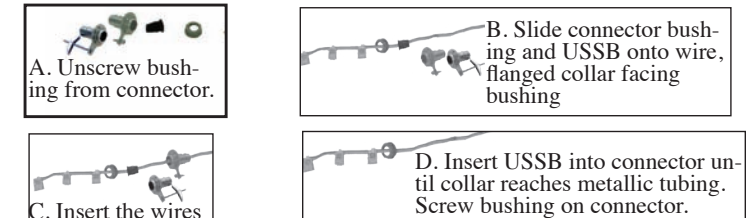

**Fig. 5** You may use Electrobits **Passthru**, **General bushings** or **Straight connectors** with USSB and GE TETRA led wiring.
**Figure 5** Slide the large metallic head over the LQBX/WB3760 Sleeving/ GTO wire assembly, along with yellow plastic ring. Slide the 1/2" twist-on connector over the sleeving and cable assembly and screw it into the LQBX.